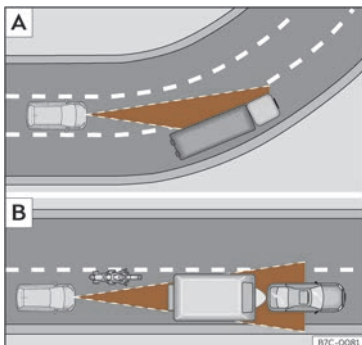

Fig. 112 **A** Vehicle on a bend. **B** Motorcyclist ahead, out of range of the radar sensor.
The ACC may not detect the vehicle in front on a curve, or may regulate the distance from vehicles in other lanes >>> **Fig. 112 A**.
- Vehicles that are not aligned while driving or that are outside the sensor's detection area, such as motorcycles >>> **Fig. 112 B**.